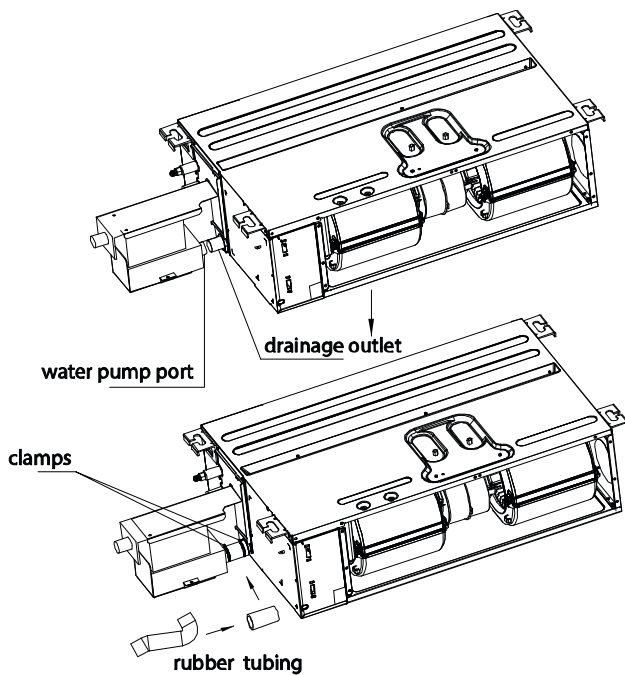

Fig. 19 — Condensate lift pump installation sizes 09K-12K
- Connect the drainage outlet and condensate lift pump using the rubber tubing and secure it with clamps on both ends (see Fig. 19).